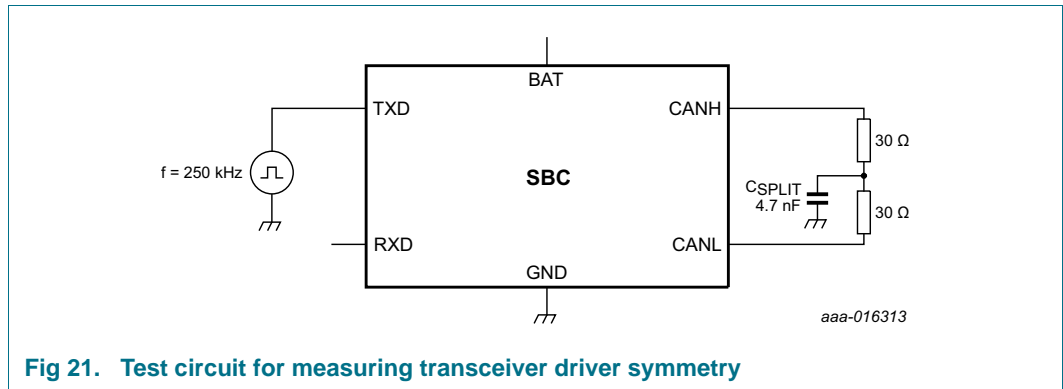

Fig 21. Test circuit for measuring transceiver driver symmetry
- [2] The test circuit used to measure the bus output voltage symmetry (which includes CSPLIT) is shown in Figure 21.